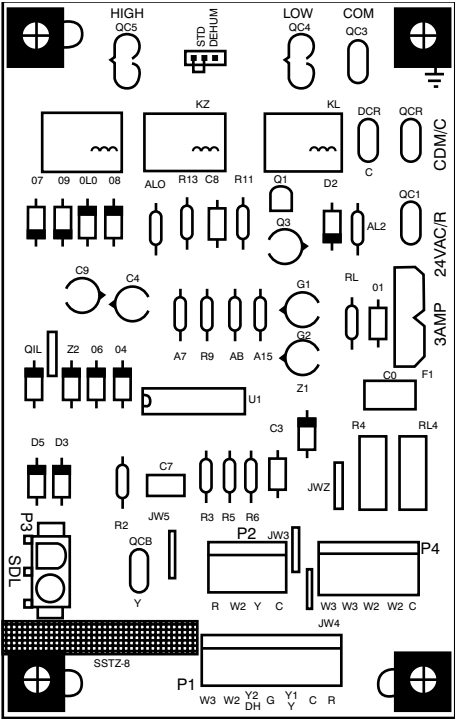

Fig. 11 – Interface Fan Board (IFB)
The cooling speed is marked “LOW” on the interface fan board (IFB) (See Fig. 11). The factory-shipped settings are noted in Table 4. There are 4 additional speed tap wires available for use in either electric heating or cooling (For color coding on the indoor fan motor leads, see Table 3). The additional 4 speed tap wires are shipped loose with vinyl caps and are located in the control box, near the interface fan board (IFB) (See Fig. 11).
2. Remove the current speed tap wire from the “LOW” terminal on the interface fan board (IFB) (See Fig. 11) and place vinyl cap over the connector on the wire.
1. Using Fig. 11, move the two pin DEHUM jumper from the “STD” position to the “DEHUM” position.
2. Remove fan speed tap wire from the “LOW” terminal on the interface fan board (IFB) (See Fig. 11).
- 1. Using Fig. 11, move the two pin DEHUM jumper from the “STD” position to the “DEHUM” position.
When the DEHUM feature is not used, the continuous fan speed will be the same as cooling fan speed. When the DEHUM feature is used, the continuous fan will operate on IFB “LOW” speed when the DH control lead is not energized, or IFB “HIGH” speed when the DH lead is energized (see Fig. 11).